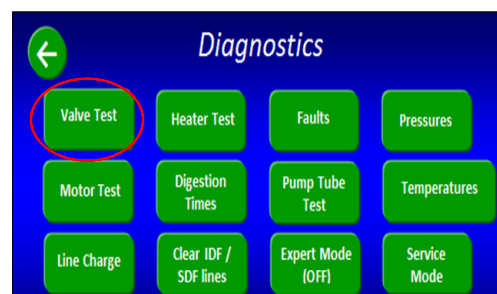

Figure 6
- From the Control Box click the "Diagnostics" button and select "Valve Test." See figure 6.